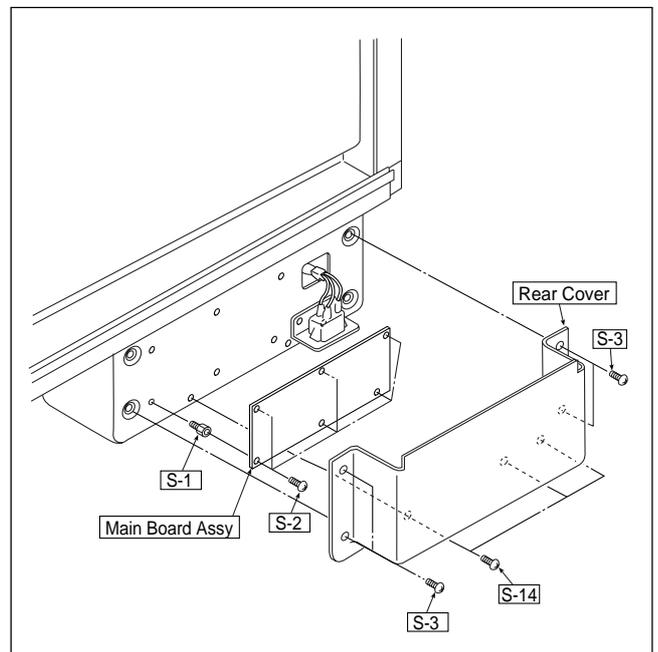

Fig. 6
### 5) Remove the Main Board Assy. (See Figure 6.)
1. Remove the "S-3" and "S-14" screws as shown in Figure 6 and then remove the Rear Cover. (Tightening torque S-3 :  $12 \pm 2.0$ kgfcm, S-14 :  $8 \pm 2.4$ kgfcm)
3. Remove the "S-2" screws shown in Figure 6 and then remove the Main Board Assy. (Tightening torque :  $8 \pm 2.4$ kgfcm)